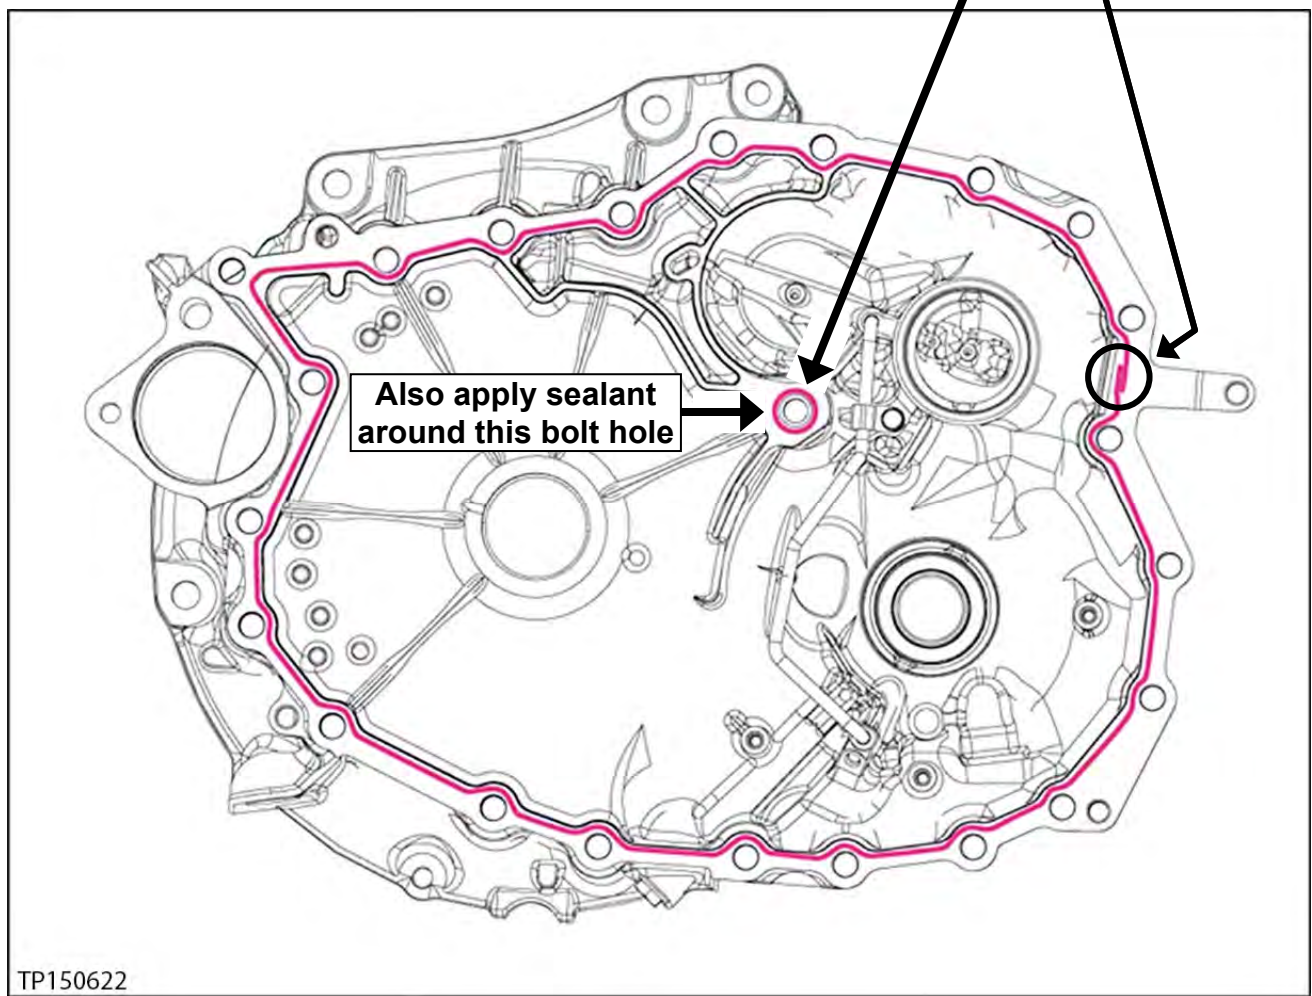

Figure 86
1. Apply one continuous 2.0 mm (0.08 inches) diameter bead of pink colored Loctite 5460 Sealant or equivalent (see footnote (4) and (6) in **PARTS INFORMATION**) as shown in Figure 86.